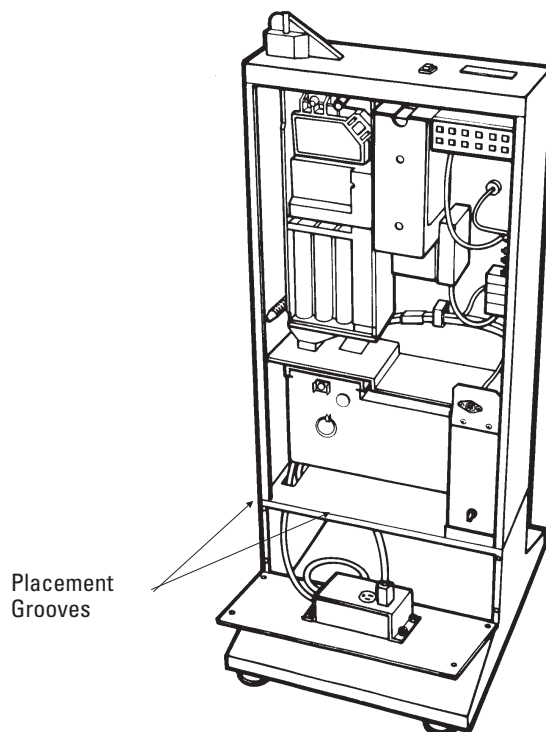

Figure 3-16:
- 5 Slide the Coin Box into the placement grooves of the Tower (Figure 3-16).